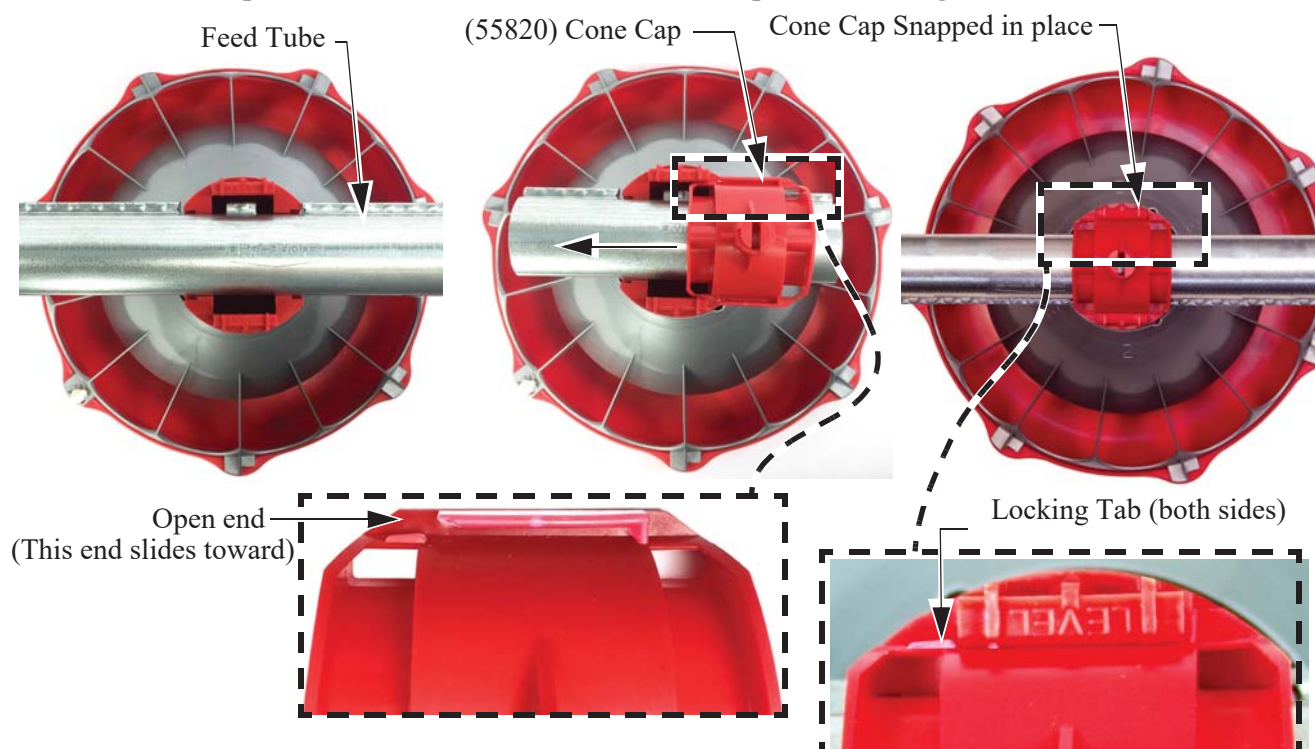

Figure 30. Cone Cap
3. Install a Feed Cone Cap as shown in **Figure 30**.